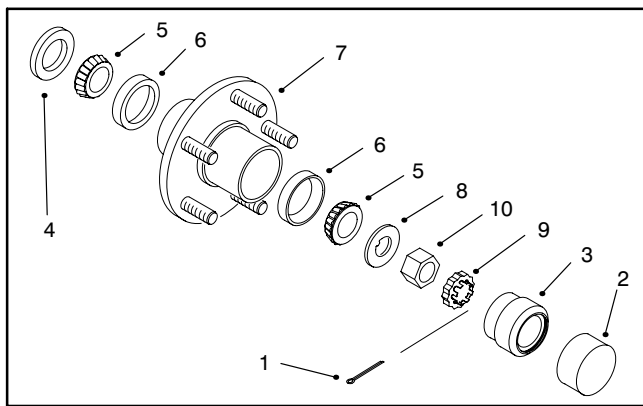

Figure 16
2. Remove the dust cap and bearing buddy from the end of the wheel spindle (Fig. 16).
10. Rotate the wheel by hand and tighten the slotted nut (Fig. 16) to 75 - 100 in-lb (8.5 - 11.3 Nm) to set the bearing. Then, loosen the nut until the hub has endplay.